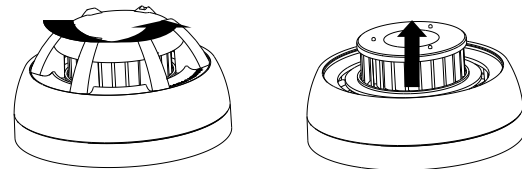

Figure 6 Removing the Sensing Chamber
- a) Open the top cover and pull the sensing chamber out.(Figure 6)